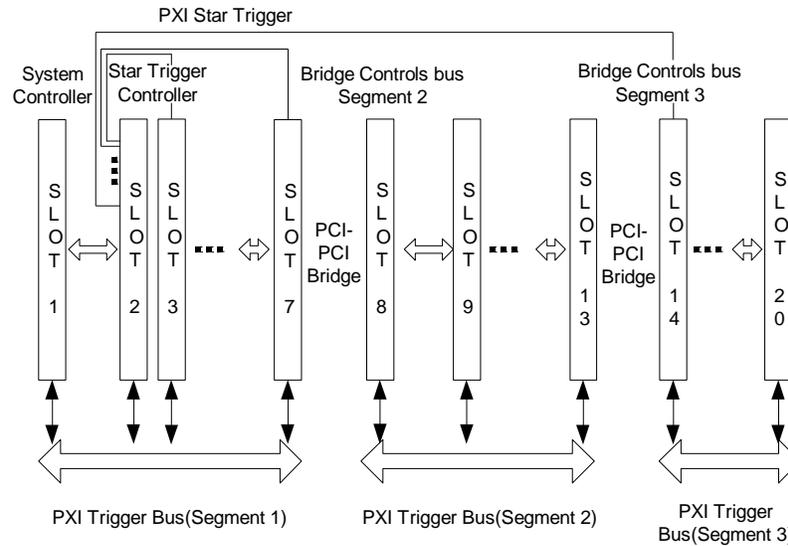

Figure 2-14: PXI Trigger Architecture
Slot 2 is the Star Trigger (ST) Controller slot (2nd from the left). This slot has dedicated trigger lines going to slots 3 through 15. The Star Trigger is used to synchronize between 14 instruments and it utilizes back plane traces that are of equal length, providing for a skew of less than 1nSec between slots. If you do not need a Star Trigger Controller, any PXI or cPCI instrument can be used in this slot. See Figure 2-14 in this chapter for more information about the available trigger architectures.
The GX70xx models have eighteen peripheral slots located in slots #3 through #20 as shown in Figure 2-14.
The PXI trigger bus provides connectivity only within a single bus segment and does not allow physical connection to an adjacent bus segment. This maintains the high-performance characteristics of the trigger bus and allows the GX70xx to partition instruments into logical groups as show in Figure 2-14. However, logical connections of the trigger bus are allowed. Under software control, the GX70xx's trigger lines can be isolated or interconnected to each segment's eight trigger lines. Signal direction between segments is also controlled by software for each trigger line.